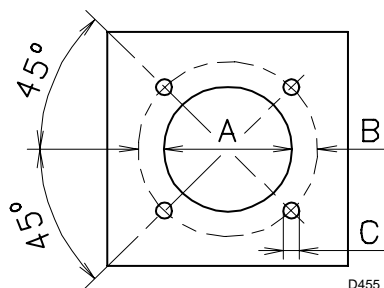

Fig. 6
**5.3 Boiler plate (Fig. 6)**
Drill the combustion chamber locking plate as shown in (Fig. 6). The position of the threaded holes can be marked using the thermal screen supplied with the burner.